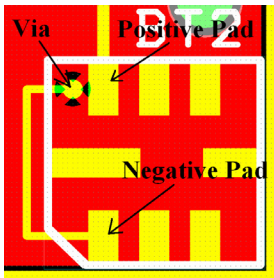

Figure 9: CBC012 PCB traces resulting in a low resistance leakage path.
- In the example in Figure 9, the negative connection is routed from the negative pad to a via placed under the package near the positive pad. In this scenario, solder flux residue can wick from the positive solder pad, covering both the positive pad and the via, resulting in a high resistance current path. This current path will make the cell appear to be defective or make the application circuit appear to be drawing too much current. Avoid placing vias beneath the EnerChip package.